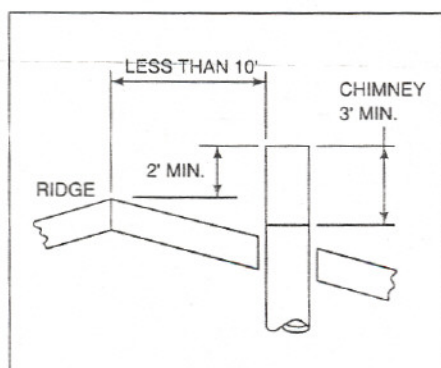

Figure 10
1. If the horizontal distance from the side of the chimney to the peak of the roof is 10 feet or less, the top of the chimney must be at least 2 feet above the peak of the roof, but never less than 3 feet in height above the highest point where it passes through the roof. See Figure 10.